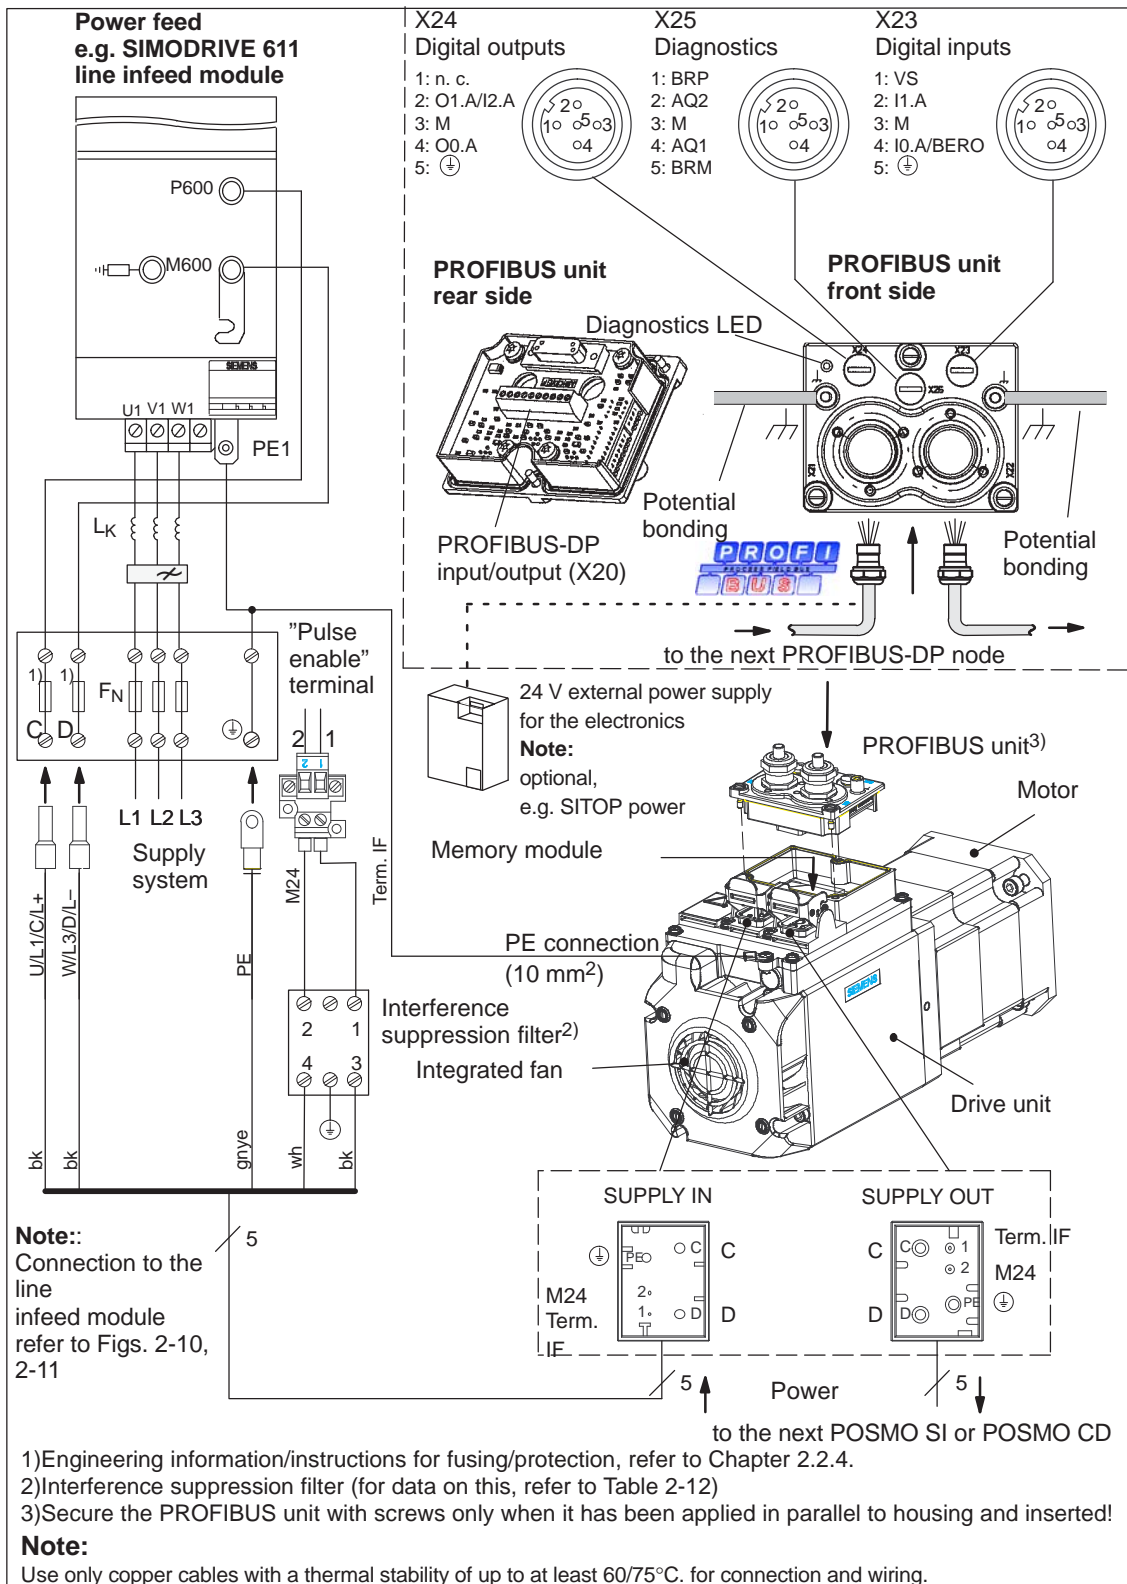

Fig. 2-16 Connection diagram, POSMO SI
- The input and output of the protective conductor at the unit housing must be crimped in one cable lug (refer to Figs. 2-16, 2-17 and 2-18).
"Pulse enable" terminal (terminal IF) Note: Additional connection conditions (refer to Fig. 2-16):